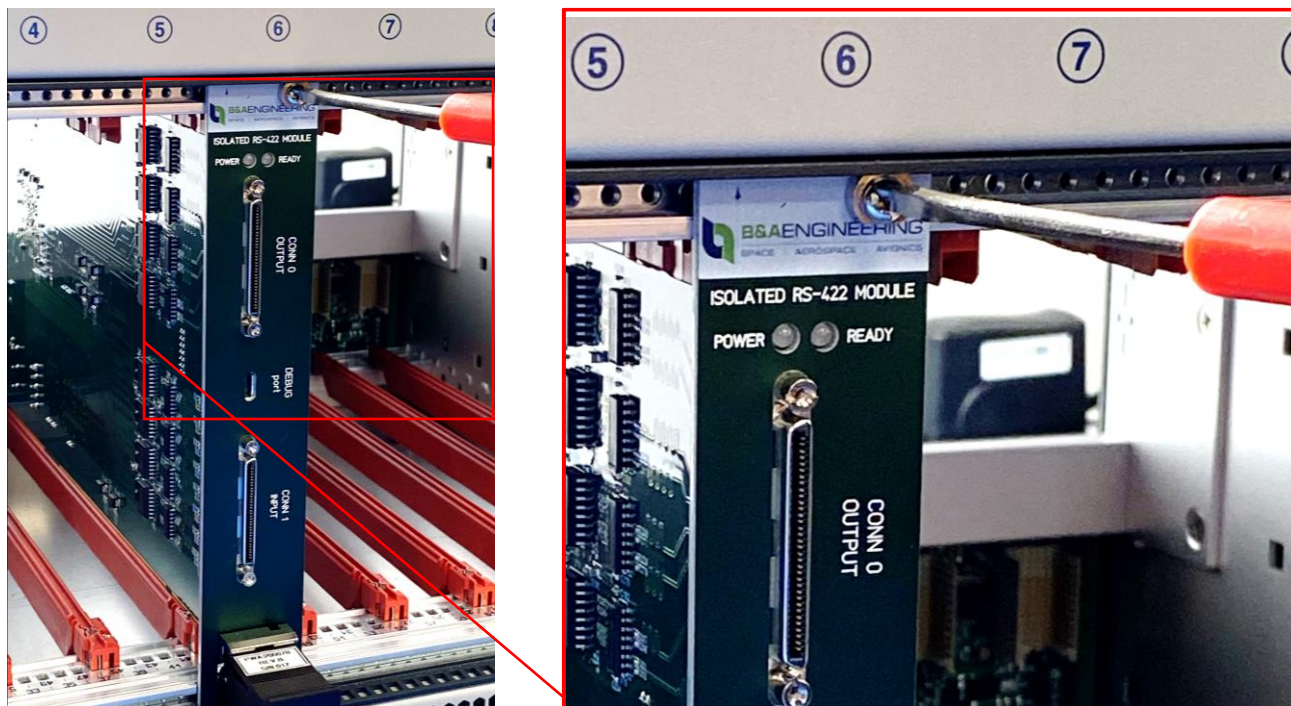

Figure 9. Tightening Module front panel top mounting screw
- 7) Tighten screw on top of the front panel as shown in Figure 9. Tightening the top mounting screw increases stability and connects the front panel to the chassis electrically, leading to improved signal quality and electromagnetic performance.